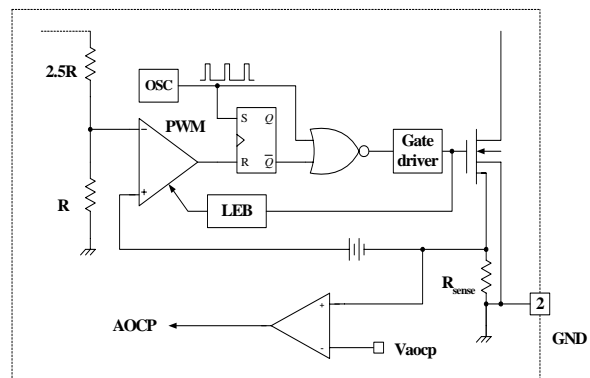

Figure 8. AOCP Block
3.2 Abnormal Over Current Protection (AOCP) : Even though the FPS has OLP (Over Load Protection) and current mode PWM feedback, these protections are not enough to protect the FPS when a secondary side diode short or a transformer pin short occurs. The FPS has an internal AOCP (Abnormal Over Current Protection) circuit, as shown in figure 8. When the gate turn-on signal is applied to the power Sense FET, the AOCP block is enabled and monitors the current through the sensing resistor. The voltage across the resistor is then compared with a preset AOCP level. If the sensing resistor voltage is greater than the AOCP level, the reset signal is applied to the latch, resulting in the shutdown of SMPS.